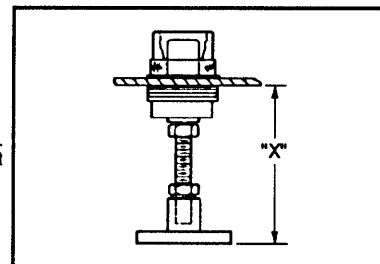

Figure 3. Reset Rod Adjustment
5. Adjust length of assembly to dimensions X, Figure 3 as defined in Table 2. Tighten locking nuts if used.